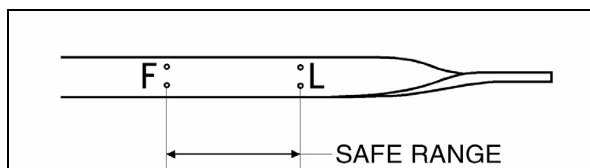

FIGURE 17: ENGINE OIL LEVEL DIPSTICK 01027
Check the oil level daily with the engine stopped. If the engine has just been stopped and is warm, wait at least 10 minutes to allow the oil to drain back to the oil pan before checking. Wipe the dipstick clean then check oil level. The level should always be within the safe range on the dipstick (Fig. 17). Add the proper grade of oil to maintain the correct level on the dipstick. All diesel engines are designed to consume some oil, so a periodic addition of oil is normal.
8. Remove the engine-oil filler cap and pour oil in the engine until it reaches the "FULL" mark on the dipstick (Fig. 17).